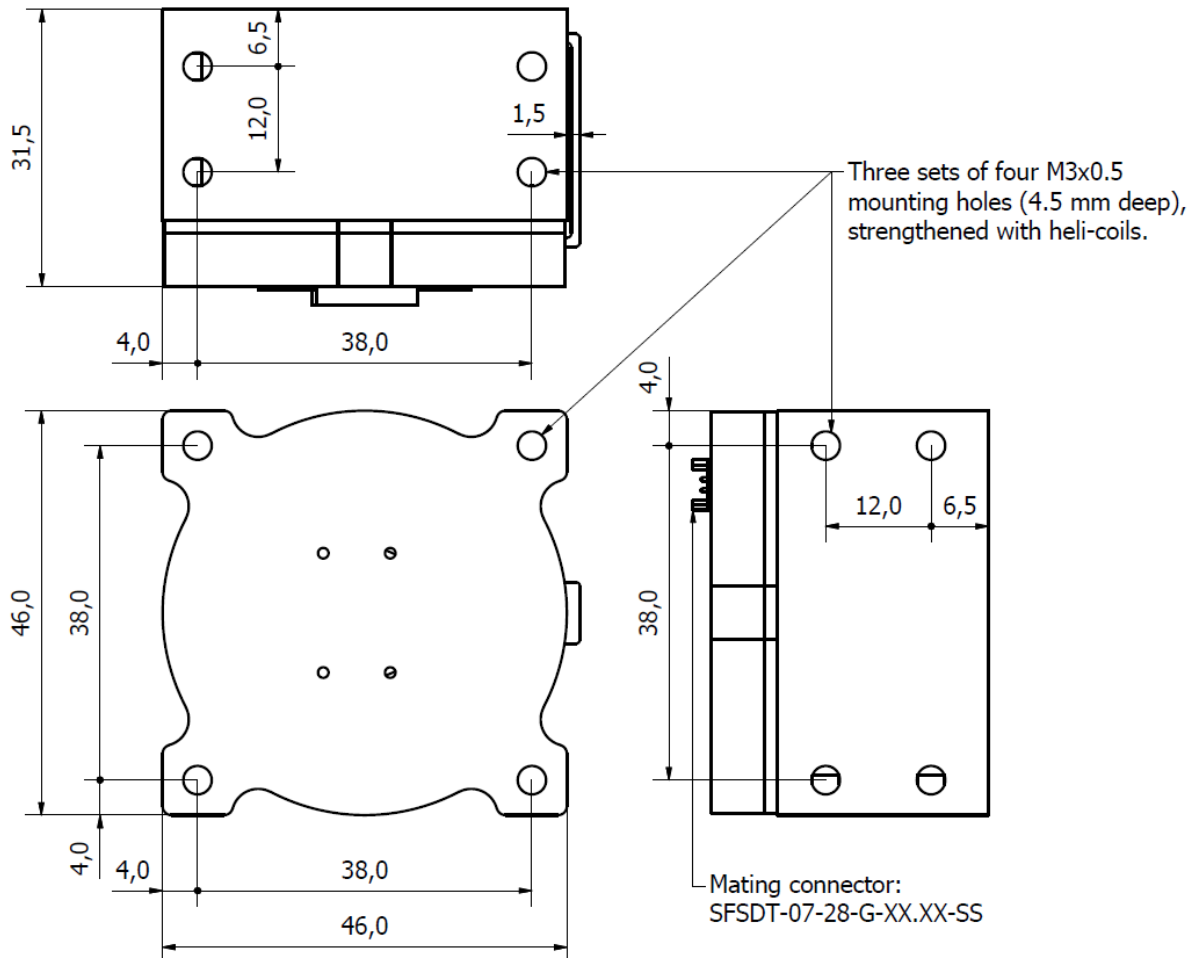

Figure 7 – Medium CubeWheel mechanical interface
The Medium CubeWheel unit has two sets of four M3 mounting holes on two different facets, as illustrated in Figure 7. The outer dimensions of the Medium CubeWheel are 46 mm x 46 mm x 31.5 mm. Note that an additional 1.5 mm is required on one side of the CubeWheel for internal harnesses. The M3 mounting holes will be fitted with A2 (304) stainless steel heli-coils to provide a stronger and more durable thread.